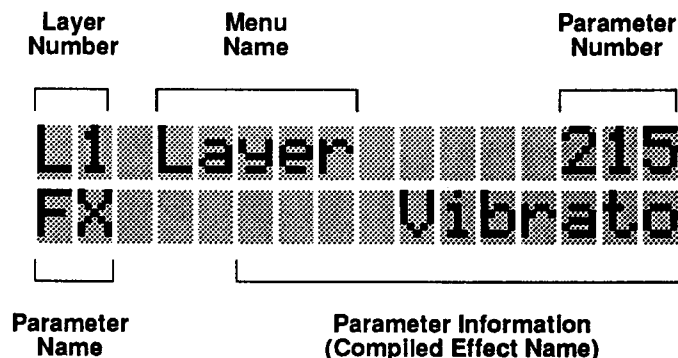

Figure 4-5 Selecting a Compiled Effect
When the current Effects Edit Level is Compiled, the display at Parameter 215 will resemble Figure 4-5. The upper line of the display shows the current Layer number, the name of the Menu (Layer) and the Parameter number (215). The lower line gives the Parameter name (FX) and the name of the currently-selected Effect. If no Effect is selected, the Effect name will be "None."